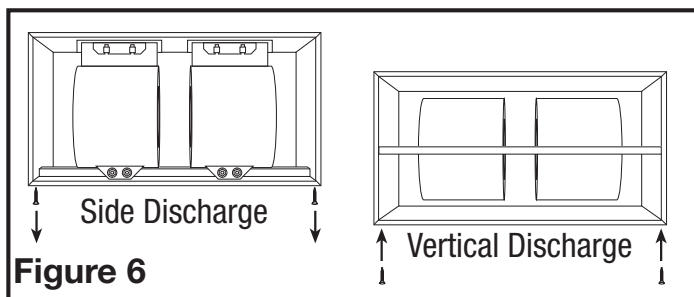

Figure 6
1. To convert unit for vertical discharge, remove 9 screws holding the side access panel in place. Turn unit 90° and reinstall panel. Make sure the grill screw hole in the panel is facing up (Figure 6).